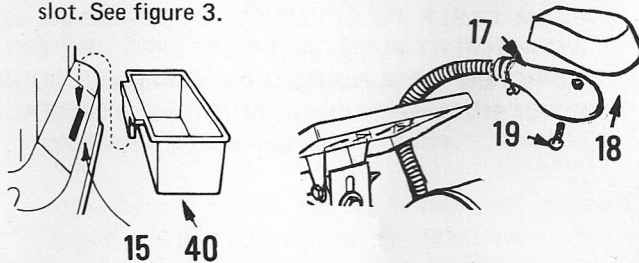

FIGURE 3
6. Assemble lamp shade cover (18) to metal lamp shade (17) with screw (19). Clamp this assembly to lamp holder. For 115 volt operation we recommend either 40 watt "regular" or 50 watt "rough service" bulb in your grinder lamp. For 230 volt operation use a 230 volt 50 watt "rough service" bulb. (G.E. 50A/RS or equivalent.) See figure 3.
7. Attach quench tray (40) to front of cover band (15) in knockout slot provided. Lip at side of tray hooks into slot. See figure 3.